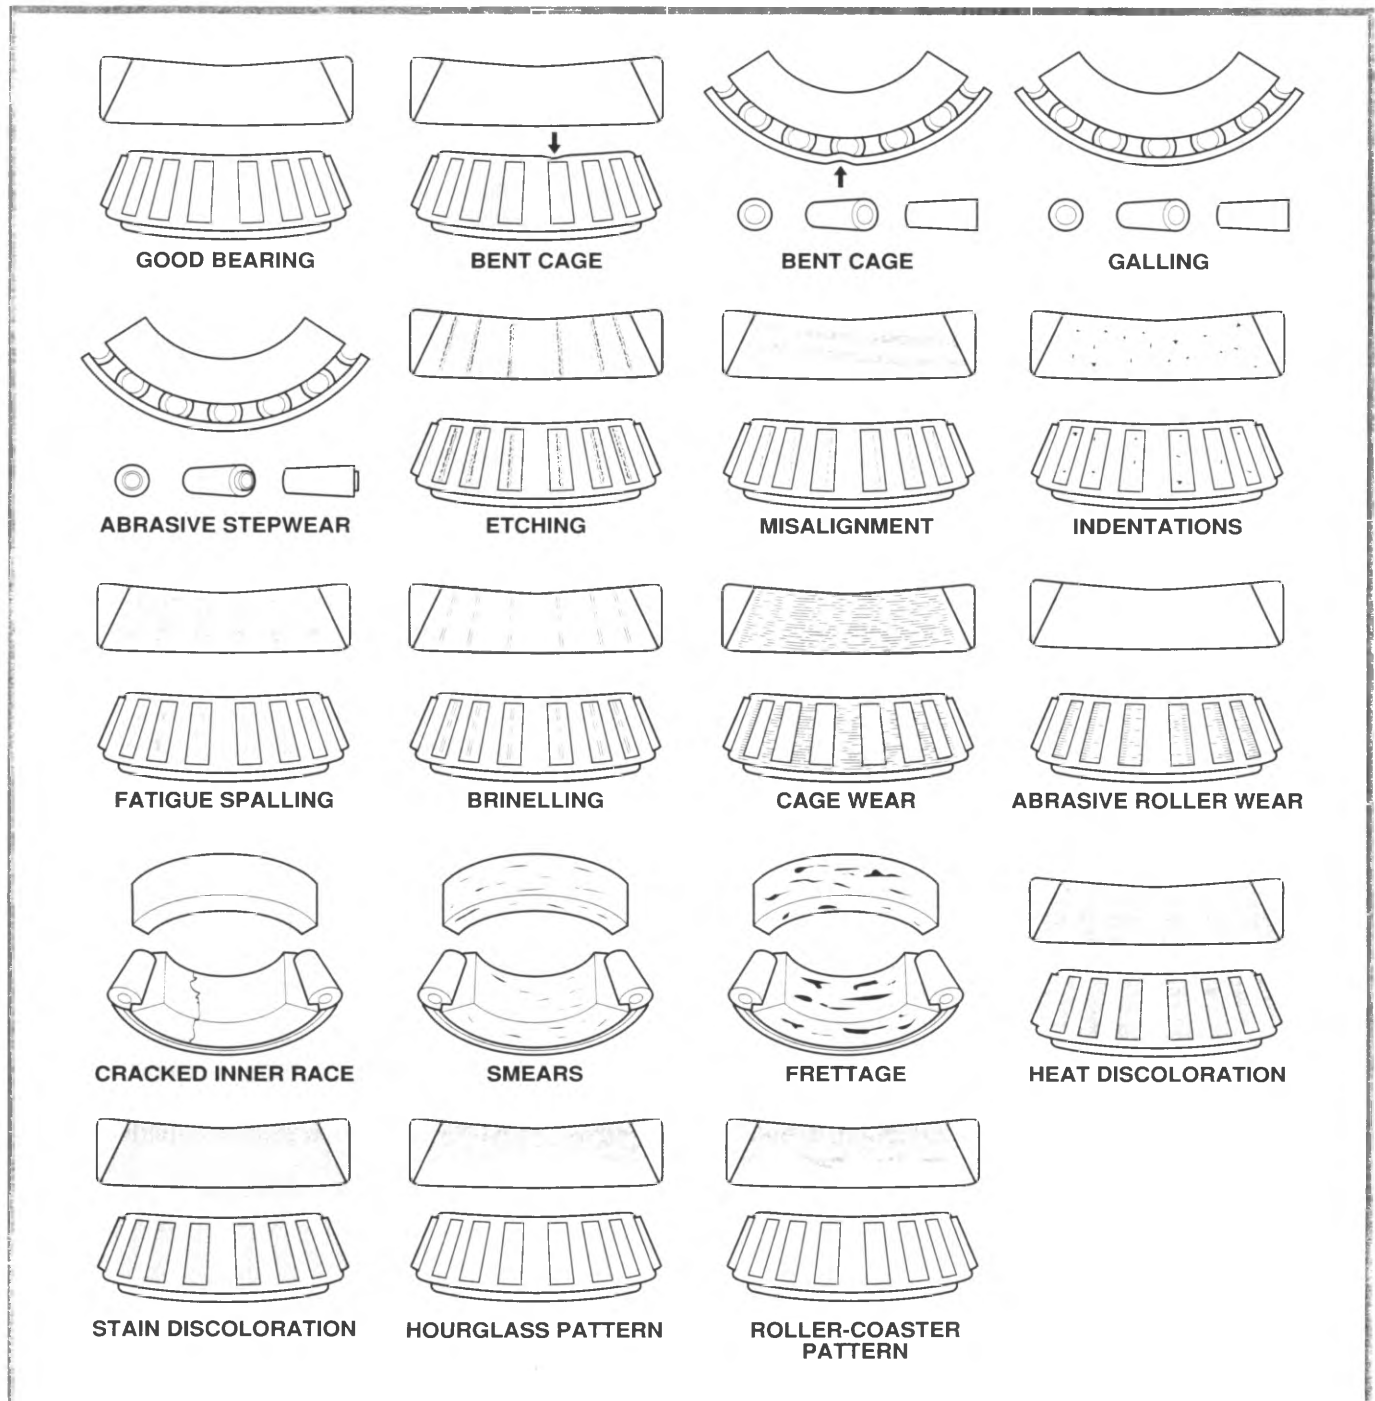

Figure 6-24, Tapered Wheel Bearing Diagnosis
- Identify the bearing wear condition (figure 6-24)